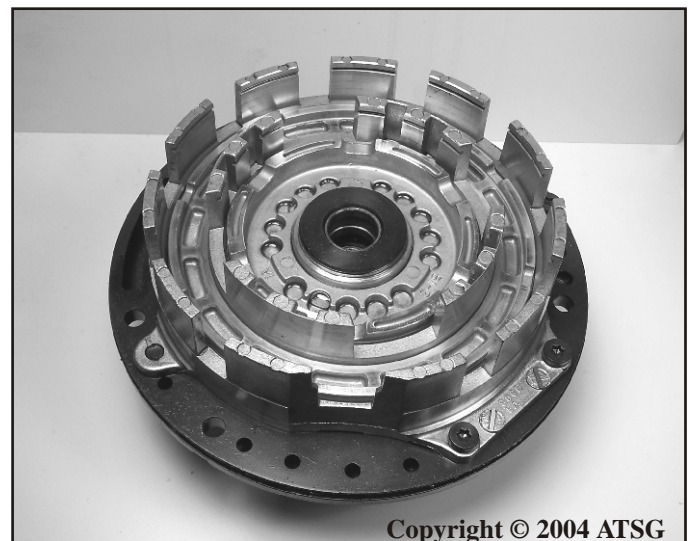

Figure 117
65. Lubricate the piston o-rings and install the pistons into the housing shown in Figure 117.